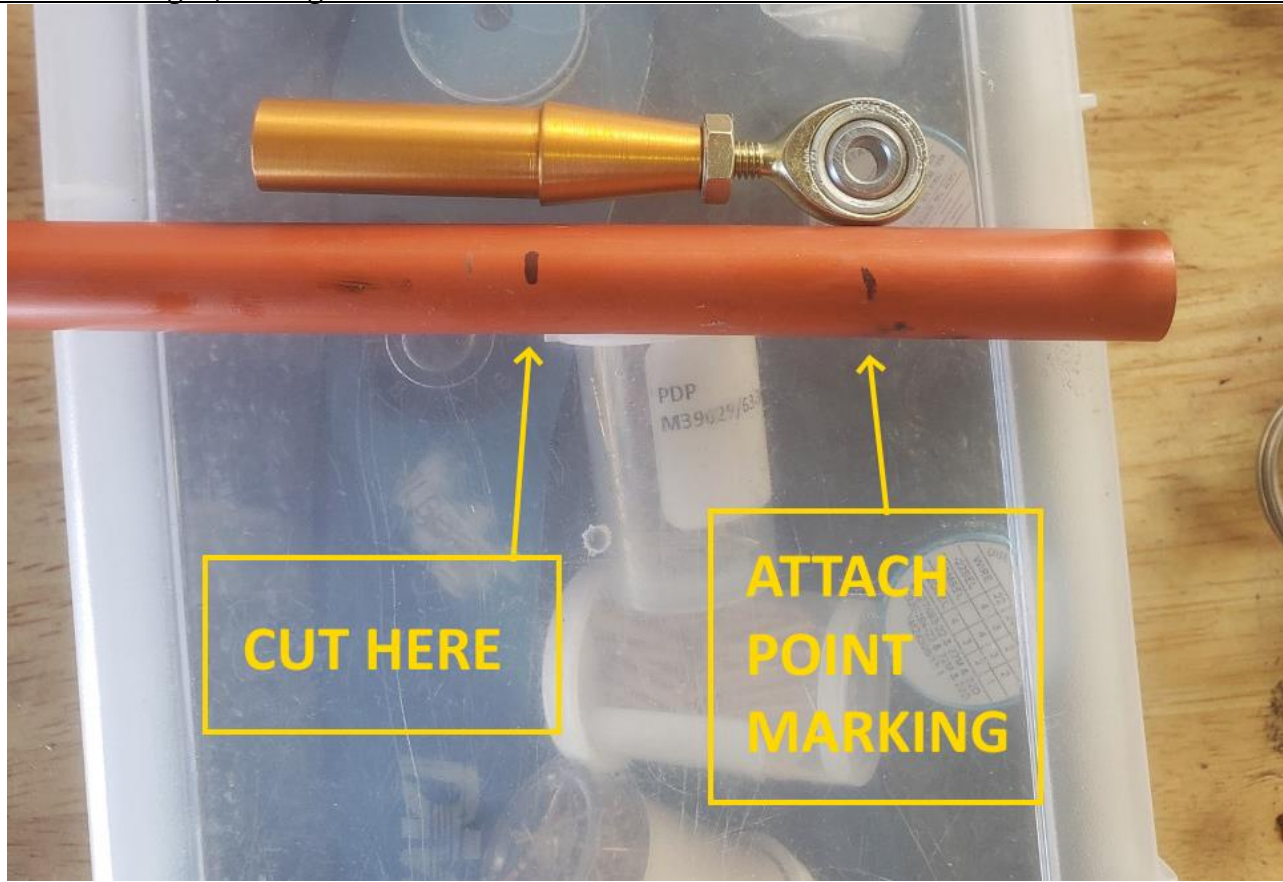

FIGURE B- 2 PUSH PULL TUBE TRIMMING
3. With the ailerons in the neutral position mark the RH aileron bellcrank attach point on the open end of the tube with a sharpie, or equivalent marking device. Refer to Figure B-2.
4. Remove the 1006406-13.625 (1 end Open) tube from the aircraft and on the open end of the tube place the provided rod- insert bolt hole next your mark. (with 4 threads showing on the rod end). Make a new marking on the tube at the base of the taper of the insert. Cut the tube at the new marking. Refer to Figure B-2.